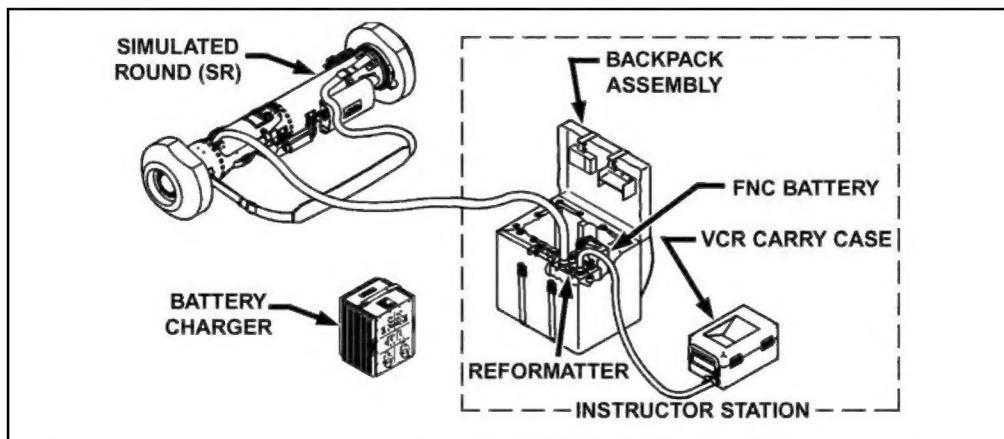

Figure 1-3. Field tactical trainer.
c. **Field Tactical Trainer.** The FTT is an outdoors, force-on-force, trainer used in conjunction with a tactical CLU and a simulated round (SR). The FTT consist of an IS, which is used to monitor the student (Figure 1-3). The SR is equipped with multiple-integrated laser engagement system (MILES).